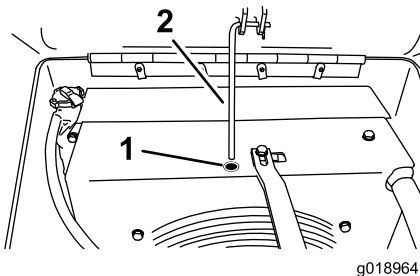

Figure 16
3. Release the hood support rod and place it into the support hole to hold the hood in an open position (Figure 16).